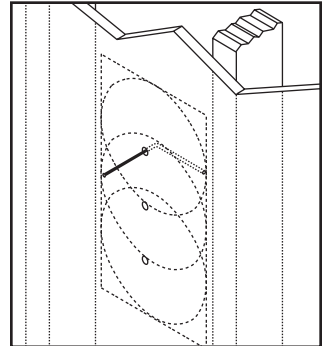

Figure 12. Using a coat hanger to check for obstructions behind the wall speaker site.
3. *Cut a foot-long piece of coat hanger and bend it to create a right angle. Poke the "L-shaped" wire into the pilot hole and turn it in a complete circle, as shown in **Figure 12**.*